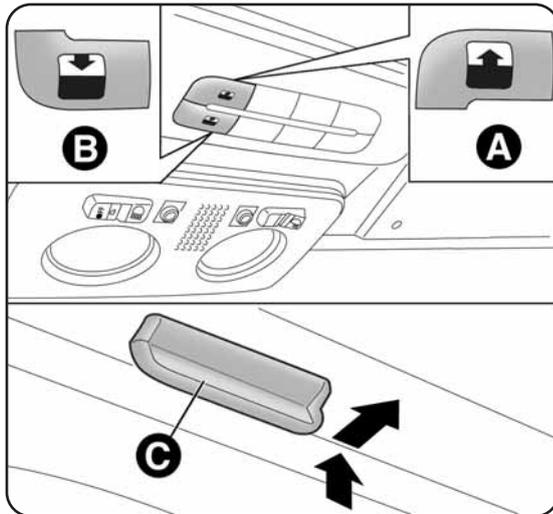

fig. 49
The large electric sun roof comprises two glass panels; the front one is mobile and the rear one fixed. These are equipped with two sun blinds (front and rear) that can be moved manually. With the sun roof closed, the blinds can be placed in any position. To open the blinds: grip handle C-fig. 49, and move the blind to the required position by following the direction of movement shown by the arrow. To close them, carry out the procedure in reverse. The sun roof can be operated only with the ignition key turned to MAR. The controls A-B fig. 49 on the front courtesy light trim operate the roof opening/closing functions.
Press and hold down button B-fig. 49. The front glass panel will move into the spoiler position; press button B once again and hold down for more than half a second to automatically move the sun roof to an intermediate position ("Comfort" position). If the opening control is pressed again for more than half a second, the roof will automatically continue until it reaches the end of travel position; the roof glass can be stopped in an intermediate position by operating the button again.
With the roof in the fully open position, press button A-fig. 49 and, if the button is operated for more than half a second, the front roof glass will automatically assume the intermediate position (comfort position).
- press button A-fig. 49 until the sun roof is completely closed. Release the button;